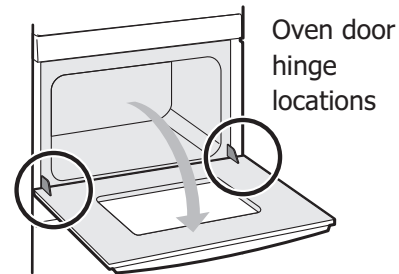

Figure 6: Door hinge location
3. Fully open the oven door, horizontal with floor (Figure 6).